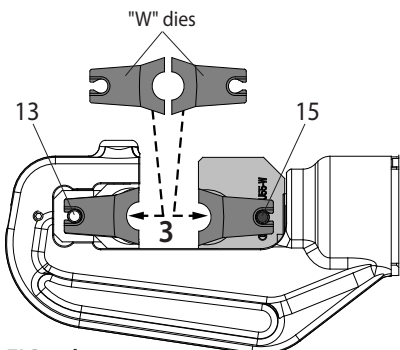

FIG. 2d
- Press pins (13 and 15) and insert one "W" die into the upper adaptor AU55-B and the other into the lower adaptor AU55-W (3) (see Fig. 2d); to disassemble them it will be sufficient to press the pins and to slip them from the head.